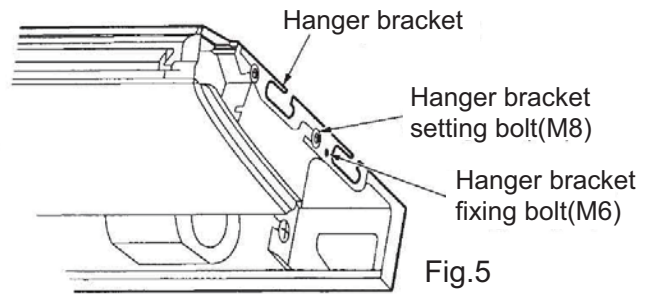

Fig.5
(Refer to Fig.5).
(6). Tighten both hanger bracket-setting bolts (M8). (Refer to Fig.5)
(7). Tighten both hanger bracket-fixing bolts (M6) to prevent the displacement of the indoor unit. (Refer to Fig.5)